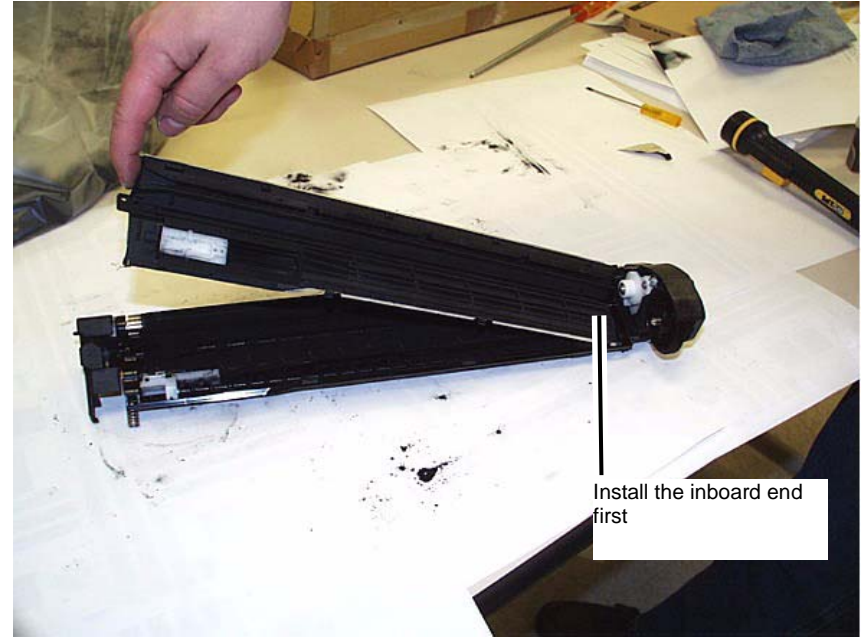

Figure 7 Preparing to reinstall the Developer Housing Cover
10. Prepare to reinstall the Developer Housing cover. (Figure 7)